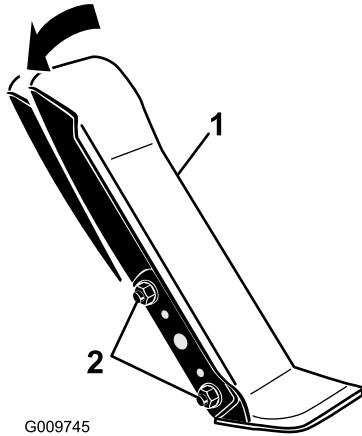

Figure 88
1. Loosen the two nuts and bolts securing the left side of the traction pedal to the bracket (Figure 88).
2. Pivot the pedal to the desired operating angle and tighten the nuts (Figure 88).